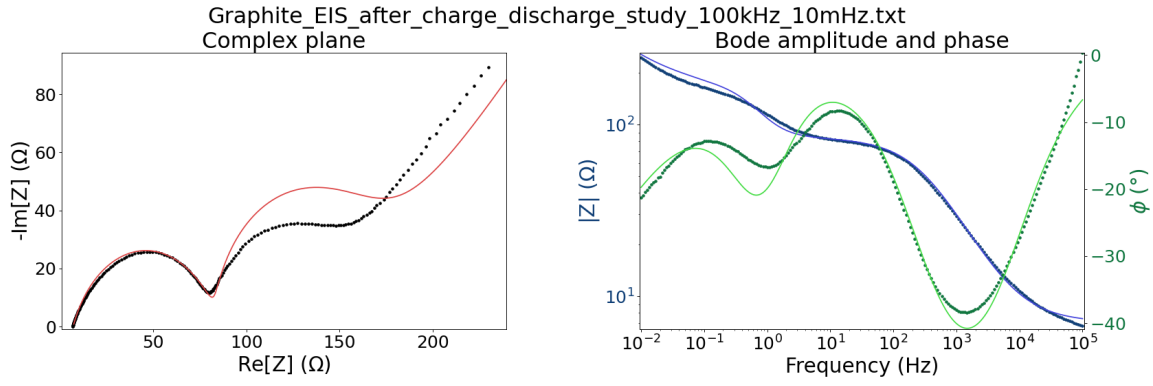

Figure 28: C||Li impedance spectrum after tuning n_1 , Q_1 , and R_1 .
10. To better match the initial guess to the data in the complex plane, the CPE exponents n_1 and n_2 should be decreased. However, decreasing n_1 will cause the model's $|Z|$ to differ greatly from the measured data. This can be remedied by adjusting Q_1 . A final, small adjustment of R_1 gives rise to Figure 28.